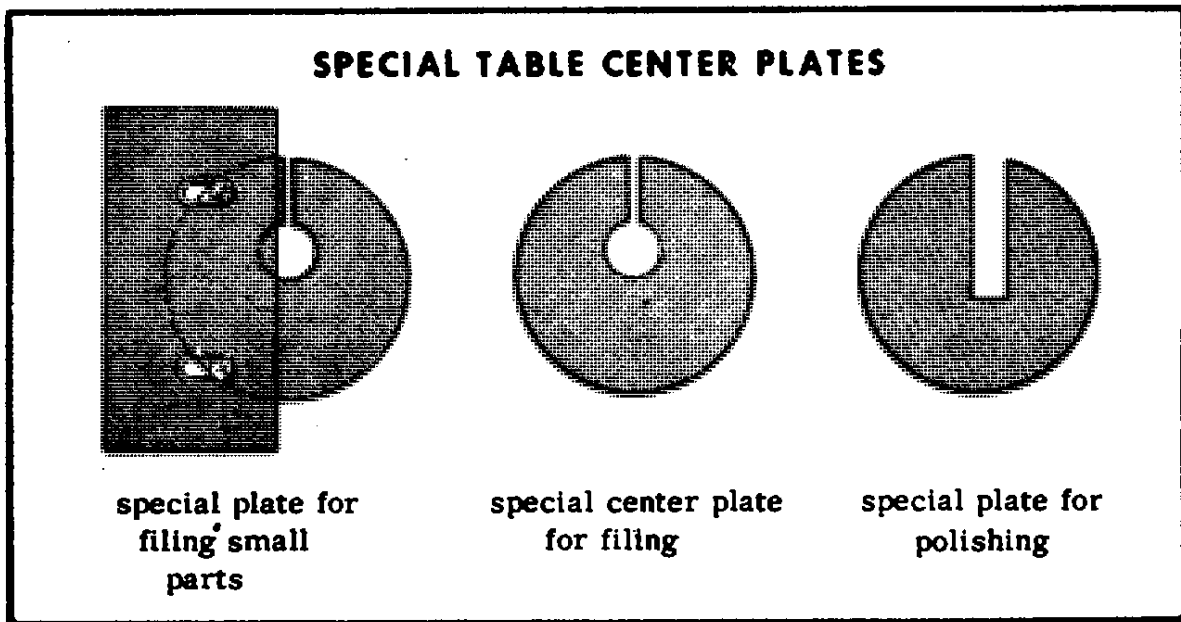

Fig. 25 - Special must be used for filing and polishing.
(6) Install the upper file guide, locking it firmly to the post with the knurled thumb screws.
(7) Install the special table center disk for filing (fig. 25).